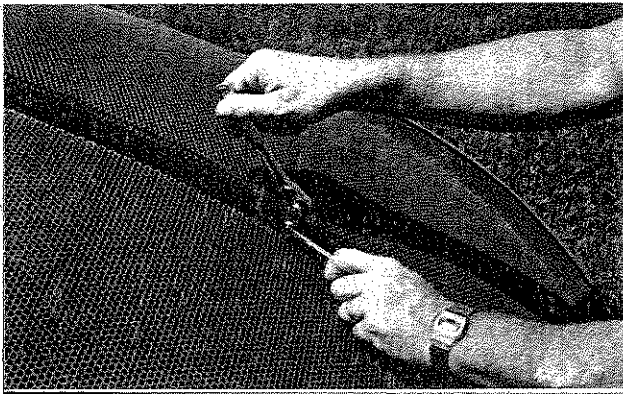

FIGURE 7
STEP 4. Tighten other two bolts inserted in Step 2. Make sure front surface of reflector is smooth at rib joint when bolts are tight. (Figure 7)